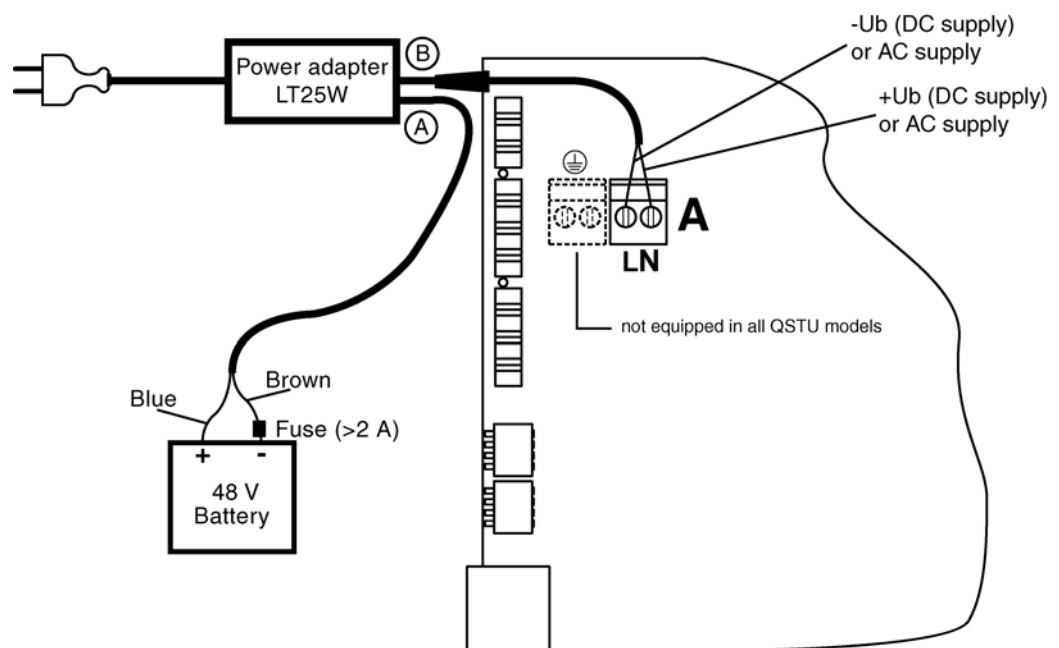

Fig. 2.136 Connecting the battery to desktop power adapter LT25W
It is also possible to use a backup battery for redundant power feeding of the LT25W. Therefore the power adapter has to be modified as described in section “Redundant battery connection LT25W” (Fig. 2.136).
8. Connect the battery (Fig. 2.136)